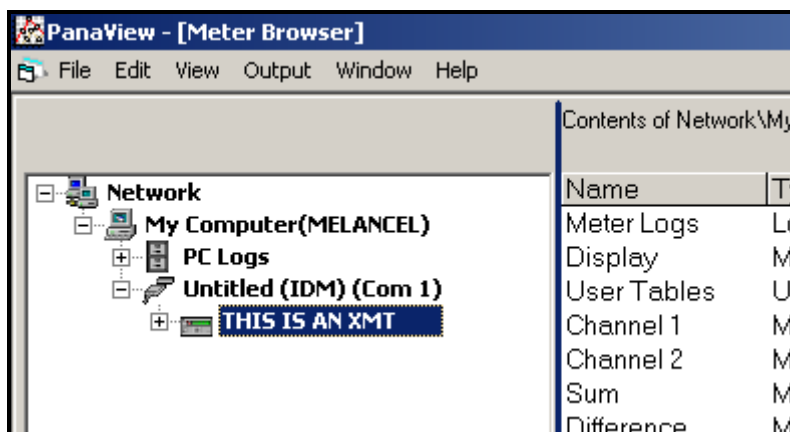
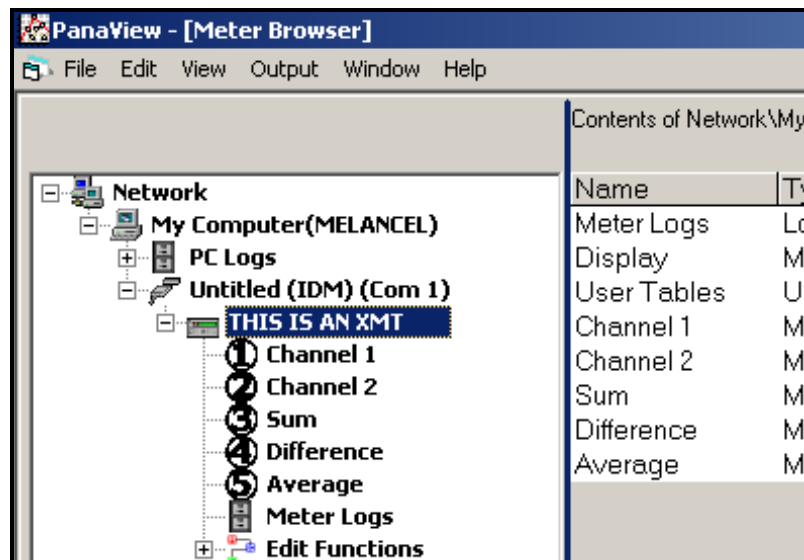

Figure C-6: The Updated Network Tree
Figure C-8: Meter Tree with *Edit Functions* Option
If the initialization is successful, the *Meter Browser* shows a listing similar to Figure C-6 below.
1. From the meter tree in the *New Meter Browser* (see Figure C-6 on page C-7), click on the XMT entry. The screen now appears similar to Figure C-8 below.